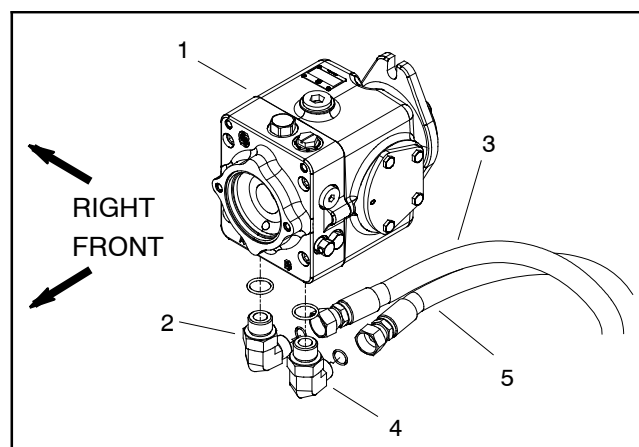

Figure 51
3. Thoroughly clean junction of hydraulic hose and **left** side elbow fitting on bottom of piston (traction) pump (Fig. 51). Disconnect hose from left side pump fitting.